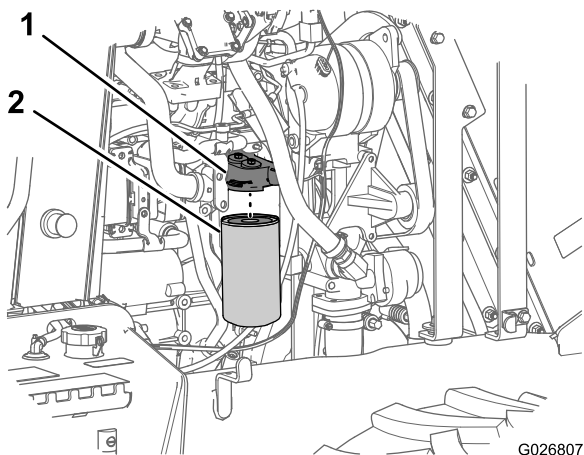

Figure 66
2. Place a small drain pan under the oil filter (Figure 66).
3. Rotate the oil filter to the left and remove the oil filter (Figure 66).
7. Align the new oil filter to the oil-filter head and rotate the filter to the right until the seal of the oil filter contacts the oil-filter head (Figure 66).
8. Hand tighten the oil filter an additional 3/4 to 1 full turn (Figure 66).